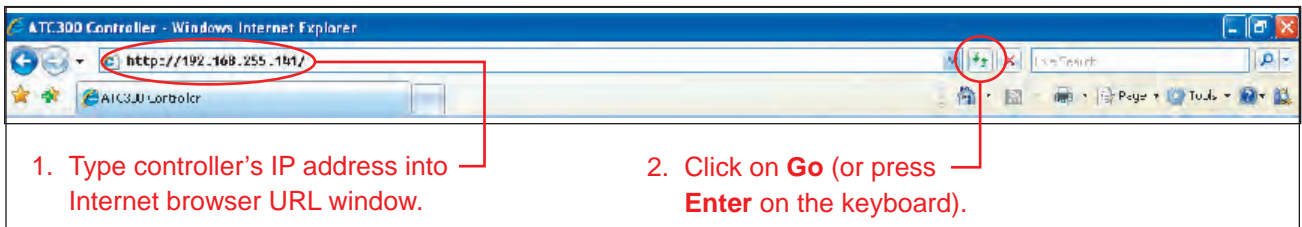

Figure 6-2. Entering Controller's IP Address Into Internet Browser.
3. Open an Internet browser (Netscape and Mozilla browsers are not supported). If the controller's interface does not automatically appear, type the controller's Ethernet IP address into the URL address window, and click on **Go** (Figure 6-2).